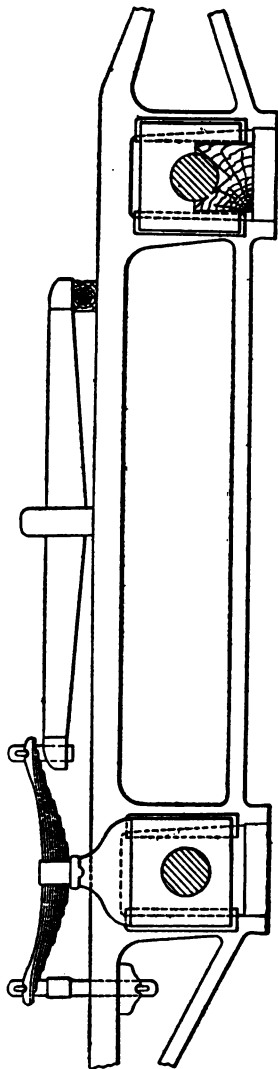

FIG. 34.—BLOCKING UP AXLE WITH BROKEN DRIVING WHEEL.
Where the wheel is broken, it may be desirable to protect the axle and so it will be best to remove the cellar from the oil box and fit a piece of hard wood snugly in over the top of the pedestal binder to serve as a rest for the axle and wheel, as shown in Fig. 34. In other respects the accident is to be treated like that of a broken axle, as in the previous question.
A. The wheel should be jacked up clear of the rails, the oil cellar removed and a block driven in over the pedestal brace to carry the axle, as in Fig. 34. The rods should be removed. It is also well to take off the driving springs, and block up over the rear axle box beneath the frame so as to raise the latter to such a height that the center from which the tire is broken cannot come down against the rail.